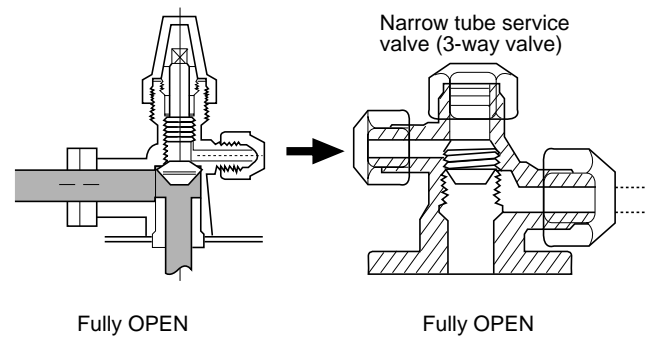

Fig. 11-2
- (6) Both the wide and narrow tube service valves are open. If not, open them now. (Fig. 11-2)